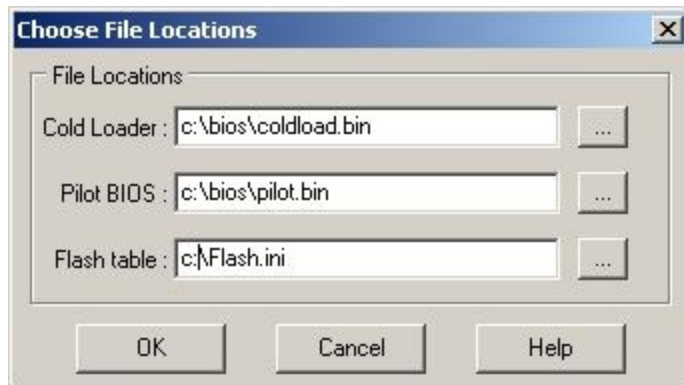

Figure 1-14. Choose File Locations Window.
5. On the Choose File Locations window (Figure 1-14), fill in the fields with Cold Loader as coldload.bin and Pilot BIOS as pilot.bin. Press the OK button